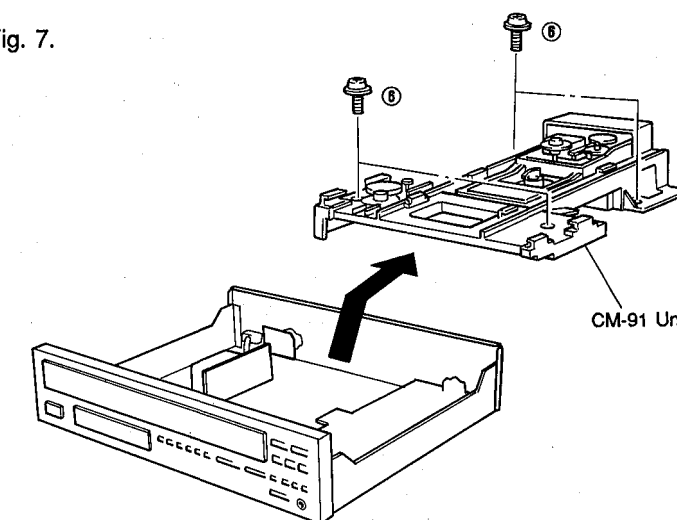

Fig. 7
- Remove 4 screws (⑥) as shown in Fig. 7.
- Take out the CM-91 Unit out slowly as shown in Fig. 7.